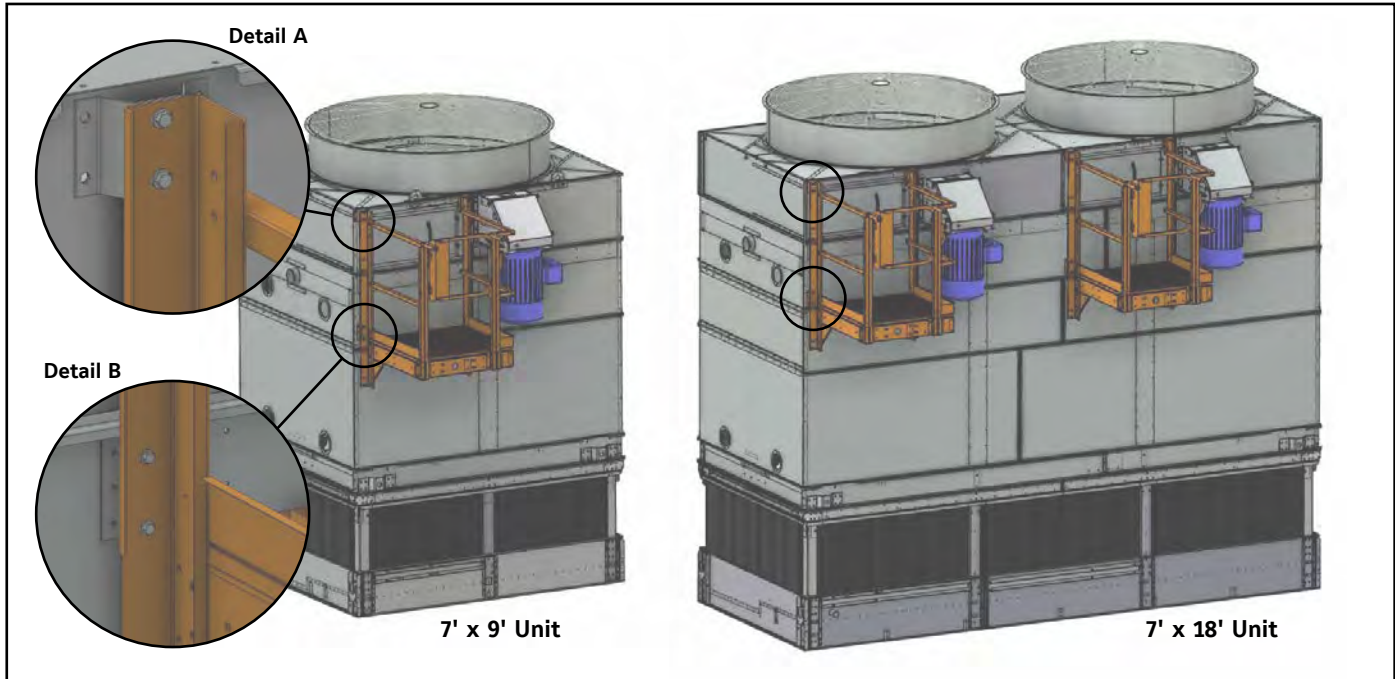

Figure 19 - Mechanical Access Platforms
1. Lift the platform module(s) into place and secure to the unit at the locations indicated in Figures 19 to 22, Details A and B using the 3/8" bolts provided.